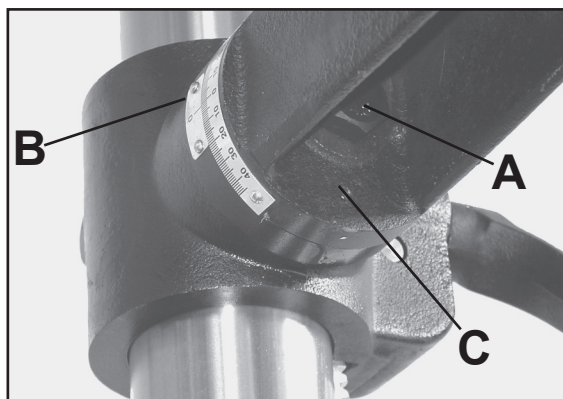

Figure 16
1. Install the arm onto the table support with hex bolt (A-Fig. 16) and make sure the scale is on zero position (B-Fig. 16). If necessary, adjust the hex socket screw (C-Fig. 16) to level the table 90 degree to the spindle.